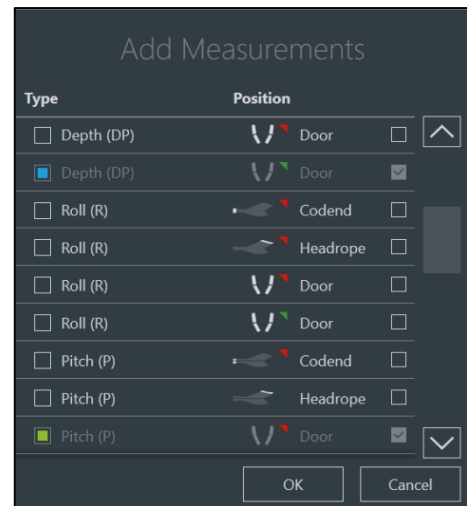

Figure 52 – Available measurements to the graph panel
*Add Measurement* – Shows a list of all available measurements and the option to give the measurement a custom color (see *Figure 52*).